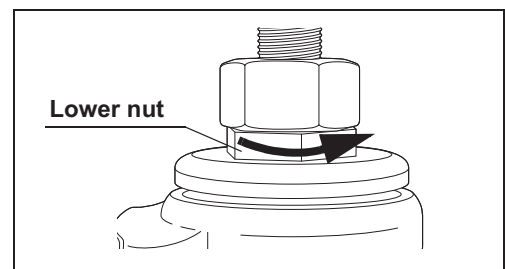

Figure 4.112
- 2 Turn the lower nut on each caster in the direction shown in Figure 4.112 to set the desired height.